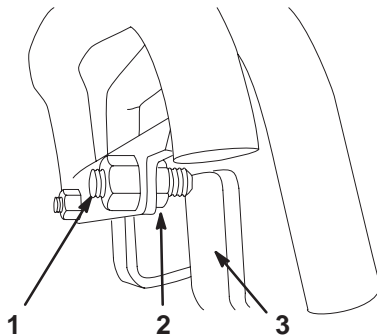

Figure 38
3. If the traction unit veers to the **left**, loosen the **right** jam nut and adjust the tracking set screw on the front of the traction control (Fig. 38).
4. If the traction unit veers to the **right**, loosen the **left** jam nut and adjust the tracking set screw on the front of the traction control (Fig. 38).